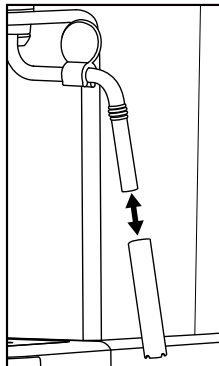

Figure 1
- 5) Pull the casing of the milk frother **10** off (Figure 1) and clean it thoroughly in warm water.
- 7) Push the casing back onto the nozzle (Figure 1).